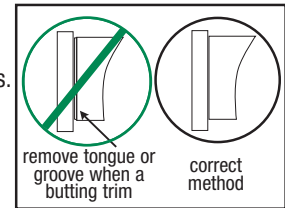

FIGURE 6
- James Hardie recommends cutting tongue or groove off when butting into trim boards (fig. 6).